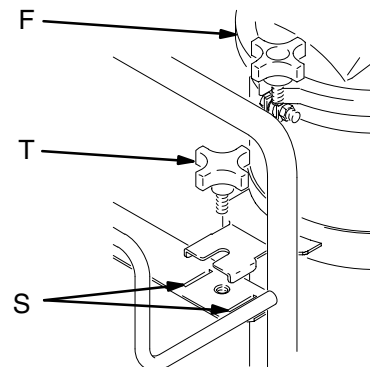

Fig. 6
1. To remove the pressure pot (F), loosen the knob (T) so that about 1 in. of the threads are showing. Lift the pot off the unit. See Fig. 6.
2. To install the pressure pot, align bracket over slots (S) and set it on the plastic base. Tighten the knob (T). See Fig. 6.